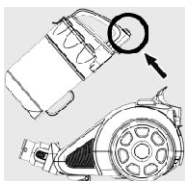

Figure 15
2. Press the button on the handle of the dust bag and remove it (Figure 15).